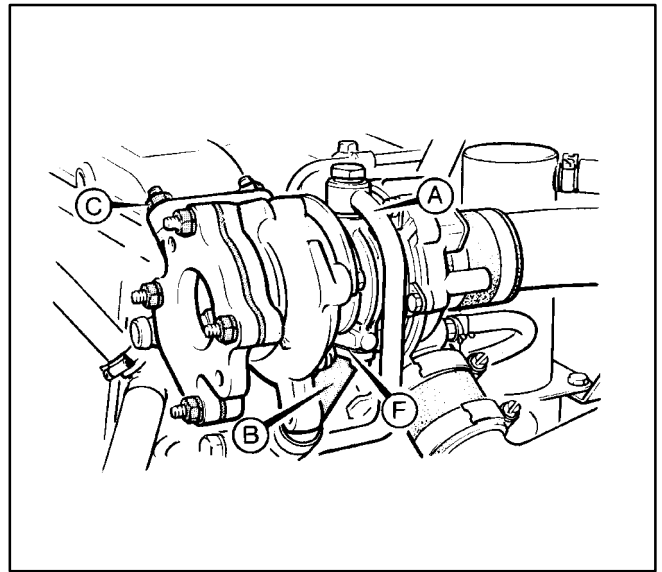

FIGURE 8-54. TURBOCHARGER
1. Remove the turbocharger oil feed and return pipes (Figure 8-54, Items A and B).